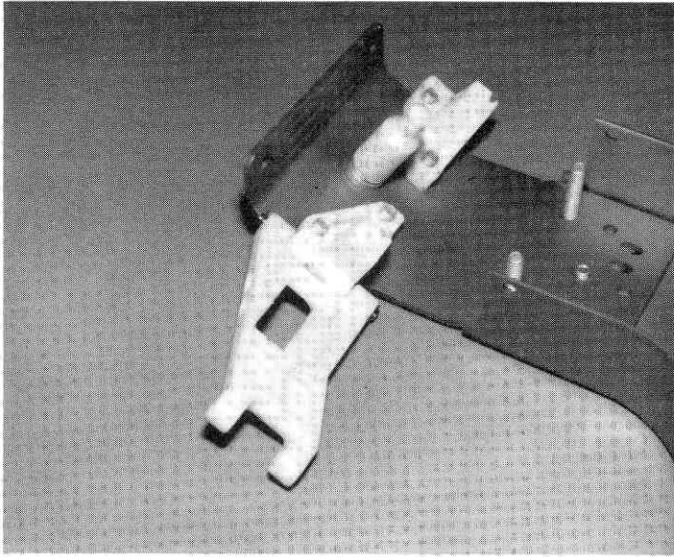

Fig. 8
□ **Fig. 8** Line up the A-arm with the mount and push the pin through. Using a small screwdriver, install an "E" clip on each end of the pin. Now, install the R.H. side.